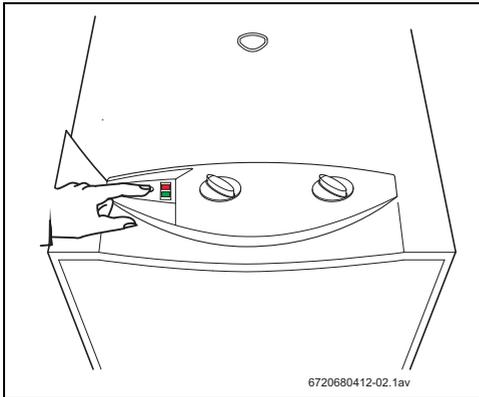

Fig. 3
- ▶ To do so, just turn on the switch (→Fig. 3).